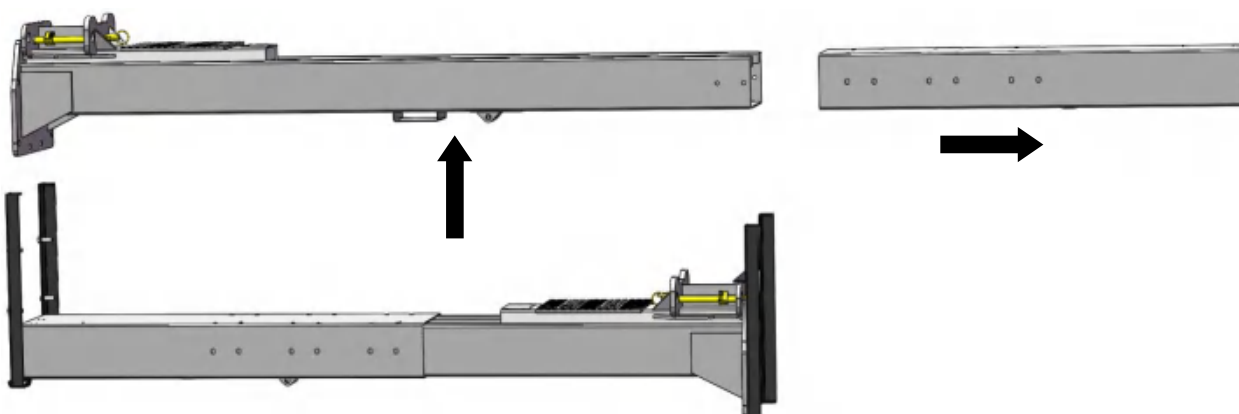

Fig. 13
4. Lift the upper column with a fork lift or hoist, loose the upper bolts of the package bracket, then take out the parts inside the column. **(See Fig. 13)**